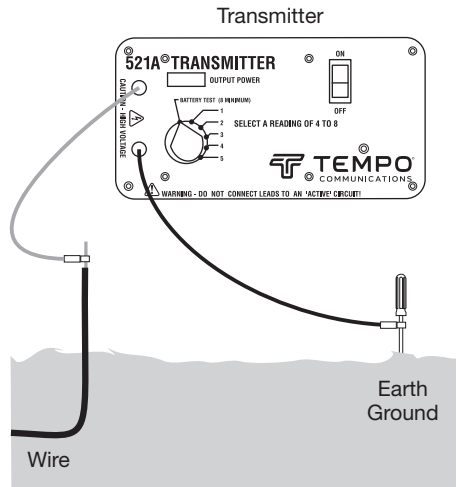

Figure 1 – Transmitter Setup
1. With the transmitter off, connect the red lead to the wire to be located and the black lead to a good earth ground with the stake provided. (Refer to Figure 1.) If the clock is indoors, the earth ground stake **MUST** be grounded at the point where the wires exit the building. It might require running a length of wire to the outside. Do not use a common ground inside (i.e., electrical or water pipe).